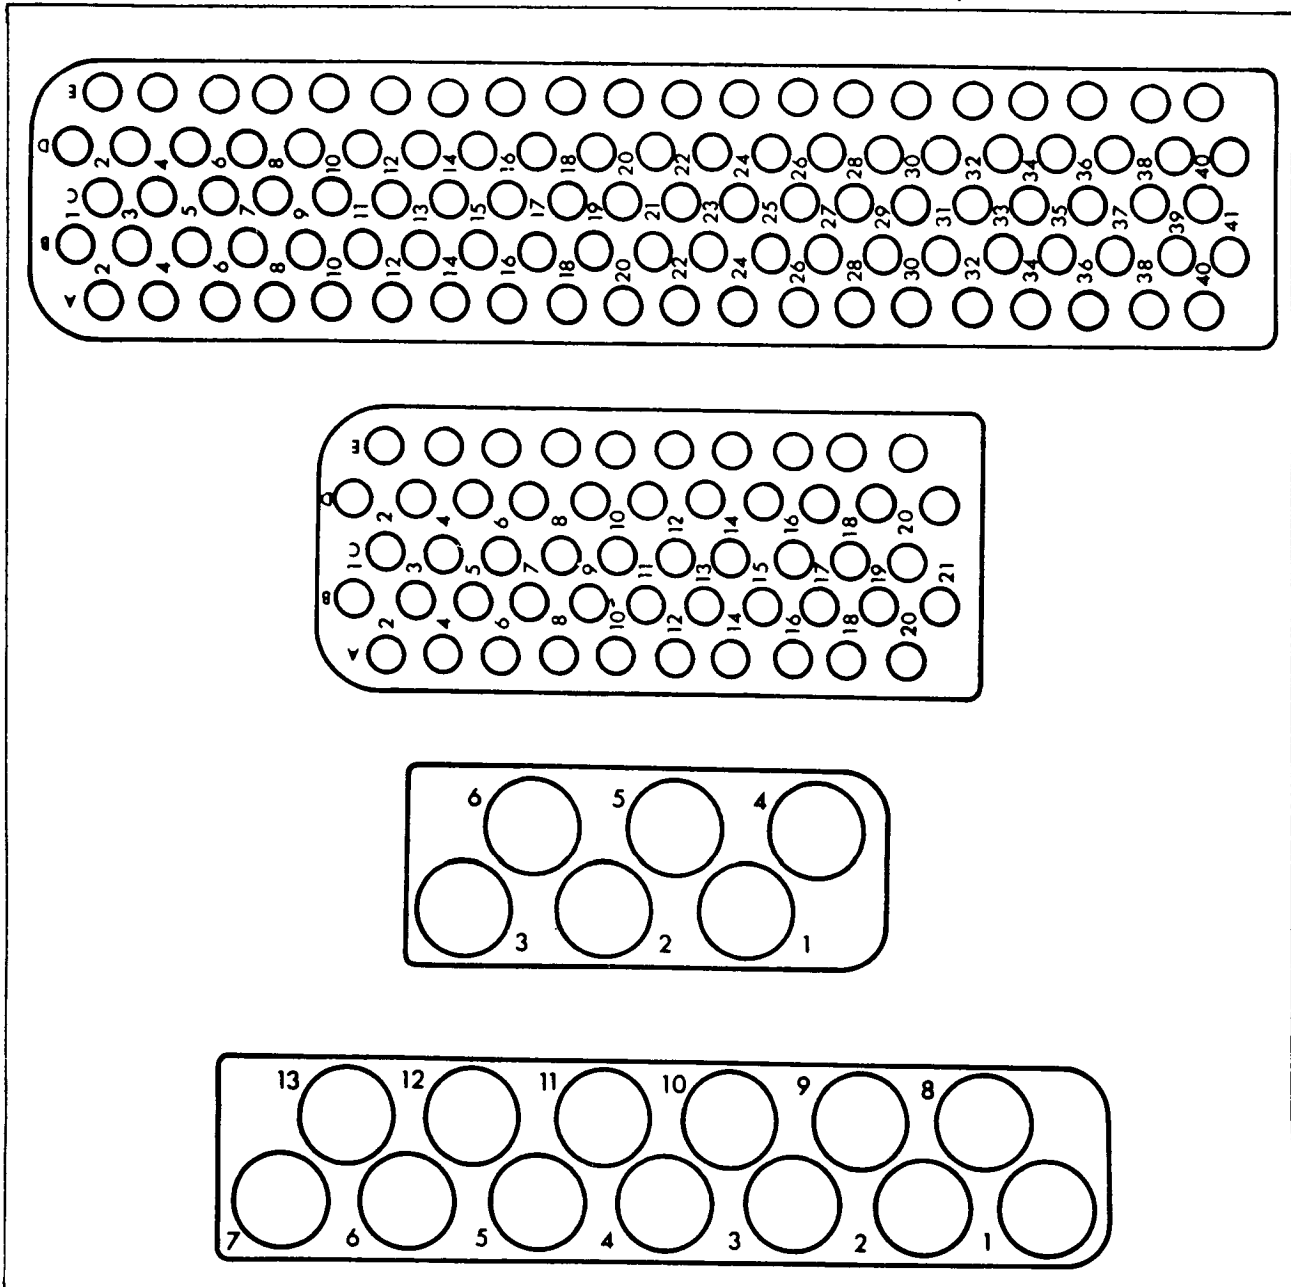

Figure 1 Contact Locations
2-5. Figure 1 shows contact locations for various connectors. Insert arrangements -2 and -52 are designed for use with standard size 20 contacts, P/N's 10-314980-20P and -20S and size 20/16 WW contacts, P/N's 10-330930-202 and 10-330931-202. Insert arrangements -6 and -13 use size 8 coaxial contacts, 21-33011 and 21-33012 series.
b. It is recommended that seating of contacts start at the lettered end and work across the opposite end as follows: B1, D1; A2, C2, E2; B3, D3; A4, C4, E4; etc. (Refer to figure 1). Visually check mating end of connector to make sure all contacts are properly inserted to the same depth.